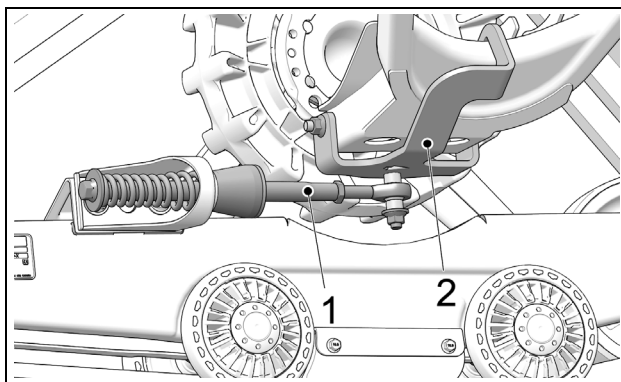

Figure 13
- Stabilizing arm (1) must be attached to rear anchor bracket (2) installed on vehicle. Figure 13.